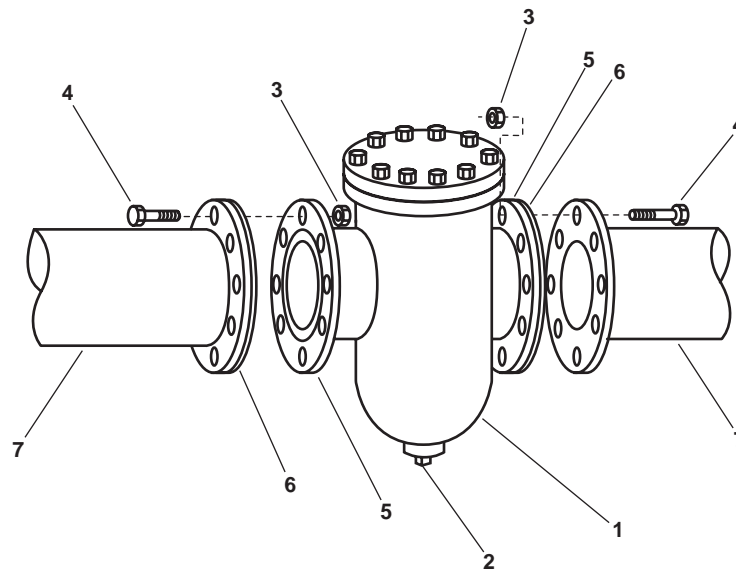

Figure 1. Simplex Strainer – Replacement
Strainer, Sediment (Item 25, Figure 1,
1. Place a suitable drain pan under the simplex strainer (figure 1, item 1).
2. Remove drain plug (figure 1, item 2) and drain the simplex strainer assembly (figure 1, item 1).
3. Replace the drain plug (figure 1, item 2) after draining the strainer.
4. Support the strainer (figure 1, item 1) using the chain hoist and endless sling.
5. Remove the eight nuts (figure 1, item 3) and eight bolts (figure 1, item 4) from each of the flanges (figure 1, item 5).
6. Remove the strainer assembly (figure 1, item 1).
7. Remove and discard the gaskets (figure 1, item 6).
1. Thoroughly clean old gasket material from each of the flanges (figure 1, item 5).
2. Position the new strainer assembly (figure 1, item 1) to the piping (figure 1, item 7) with the new gaskets (figure 1, item 6) and loosely secure with the eight bolts (figure 1, item 4) and eight nuts (figure 1, item 3) for each flange (figure 1, item 5).
3. Tighten the eight bolts (figure 1, item 4) on each flange (figure 1, item 5).